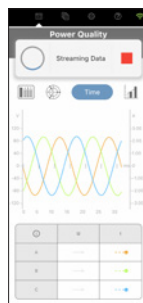

Figure 2
- Figure 2: Current only: Displays the current line cycles for all lines on the same plot